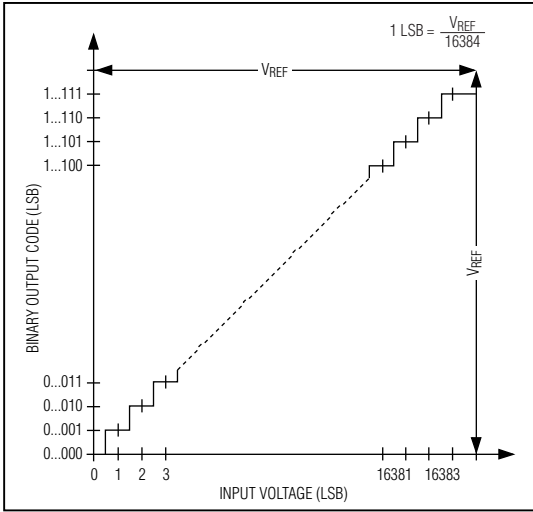
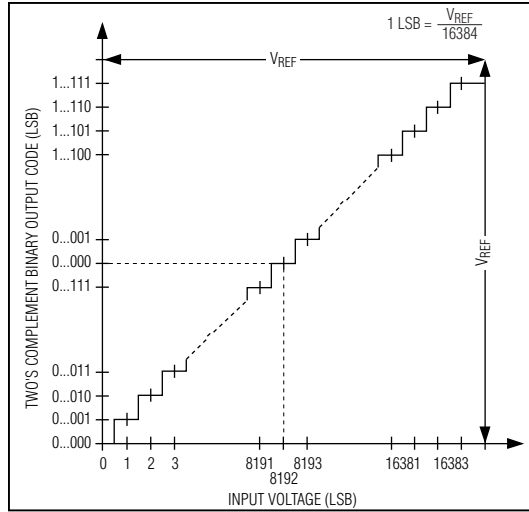

Figure 14. Unipolar Transfer Function
Figure 15. Bipolar Transfer Function
In unipolar input mode, the digital output is straight binary (Figure 14). For bipolar input mode, the digital output is two's complement binary (Figure 15). Data is clocked out on the falling edge of SCLK in MSB-first format.
Output data coding for the MAX1146-MAX1149 is binary in unipolar mode and two's complement binary in bipolar mode with  $1 \text{ LSB} = (V_{REF}/2^N)$ , where N is the number of bits (14). Code transitions occur halfway between successive-integer LSB values. Figure 14 and Figure 15 show the input/output (I/O) transfer functions for unipolar and bipolar operations, respectively.